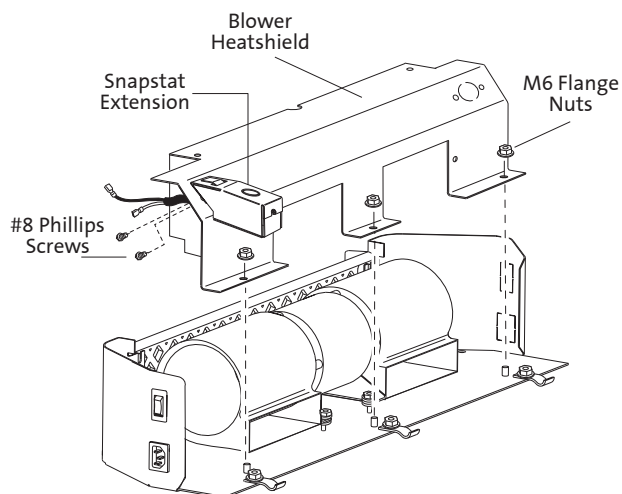

Figure 16. Attach the Heat Shield to the Extension Base plate.
- 5. Install Snapstat Extension Assembly:** Remove the snapstat knock-out from the appropriate side of the Heat Shield. Run the snapstat leads through the hole and attach the bracket to the Heat Shield using two #8 x 1/2" sheet metal screws. See fig. 16.
**9. Attach the Heat Shield to the Extension Base** using the three M6 x 12 flange head nuts as shown in fig. 16.